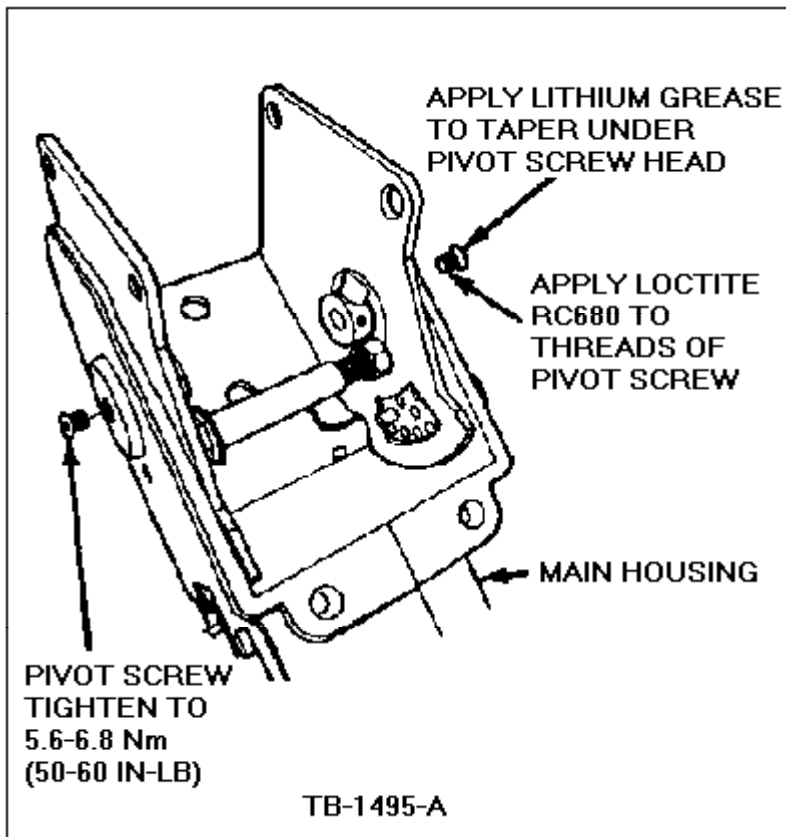

Figure 28 - Article 90-5-10
6. After the support bracket has been spread, remove the pivot screws, Figure 28.